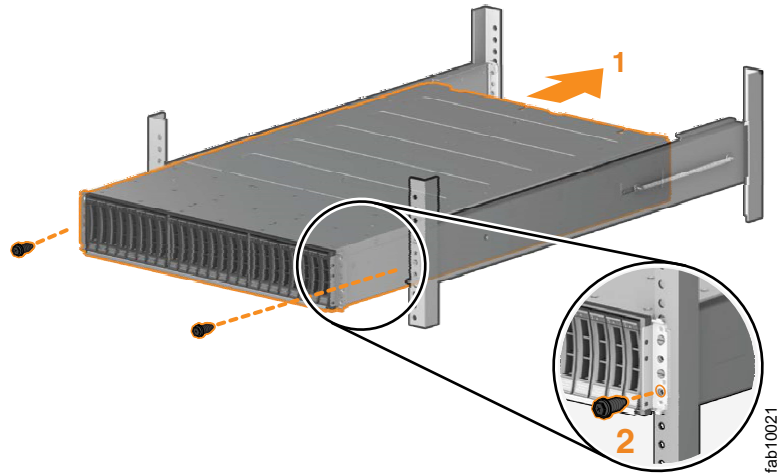
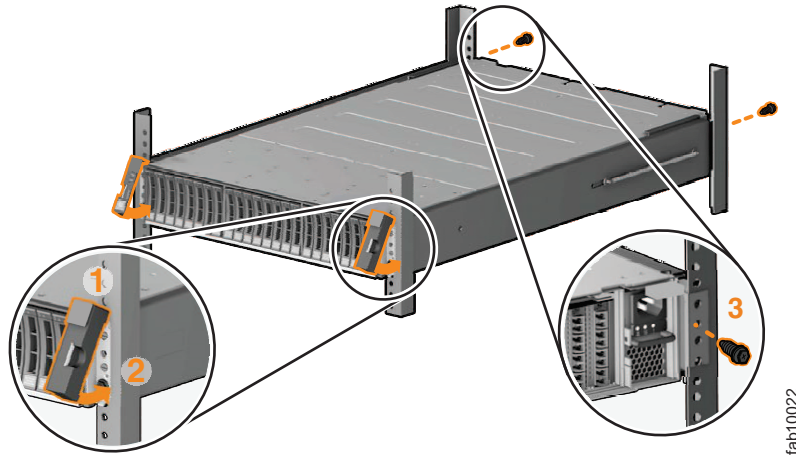

Figure 19. Inserting the enclosure
Figure 20. Reinstalling enclosure end caps
3. Slide the enclosure into the rack along the rails until the enclosure is fully inserted (see Figure 19).
4. Secure the enclosure with screws in the rack mounting screw holes. (See Figure 19 and Figure 20 on page 23.)
5. Reinstall the left and right end caps. (See Figure 20 on page 23.) The left end cap has indicator windows that align with the status LEDs (light-emitting diodes) on the edge of the enclosure.